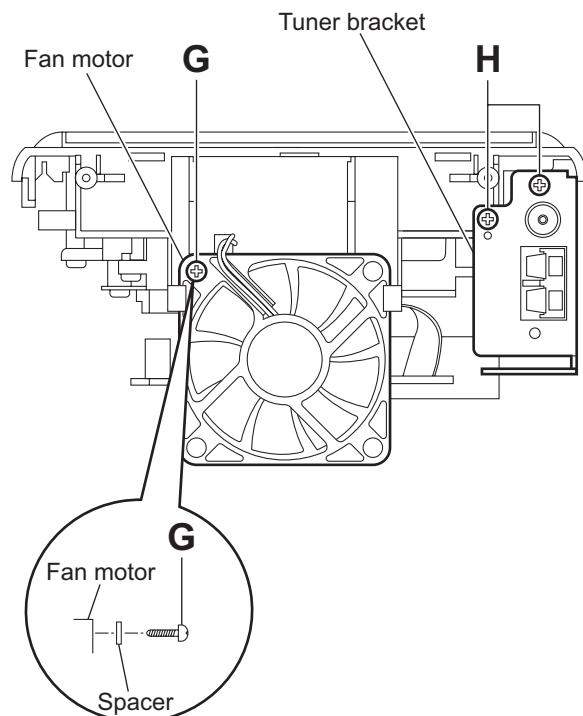

Fig.9
(See Figs.9 and 10)
- Remove the rear cover, side panels(L)/(R) and top cover assembly.
- (1) From the back side of the top cover assembly, remove the screw **G** attaching the fan motor. (See Fig.9.)
When attaching the screw **G**, attach the spacer with it. (See Fig.9.)
- (1) From the back side of the top cover assembly, remove the two screws **H** attaching the tuner bracket. (See Fig.9.)